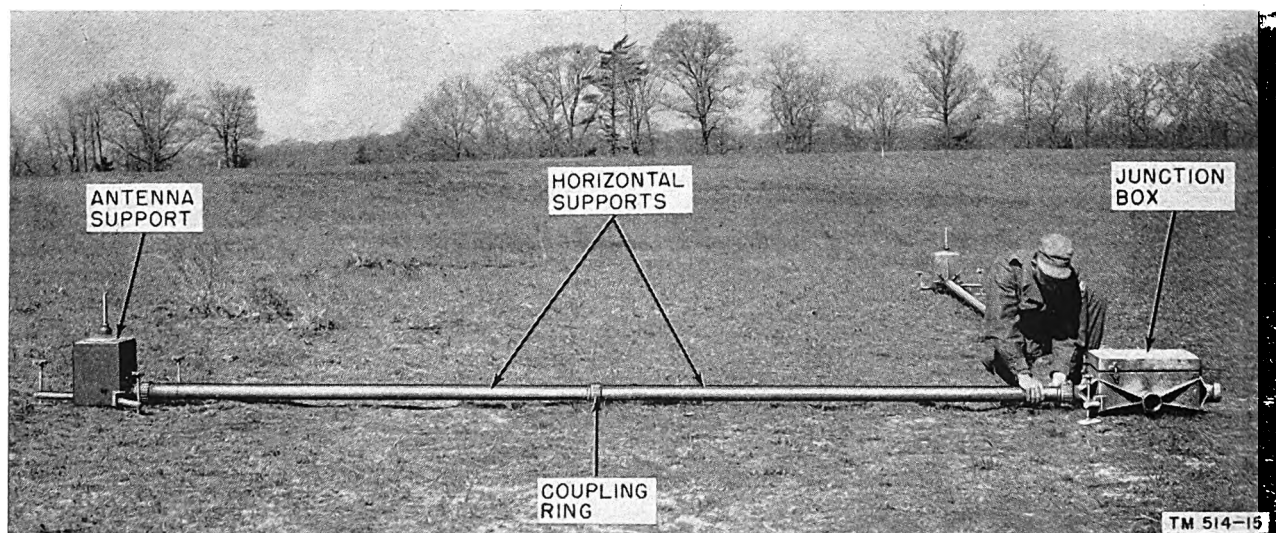

Figure 28. Tightening coupling ring on junction box.
d. **COUPLING RINGS.** Screw all the coupling rings to the coupling sleeves on the antenna supports and the center junction box. Use the large strap wrench from Chest CY-363/CRD-2 for tightening these coupling rings (figs. 28 and 29). If the coupling rings will not screw on easily, the rings may be dirty or the antenna system may not be quite level.
- (1) If only one Support MT-333/CRD-2 is used (par. 19b or c), remove all interconnecting cables from Chest CY-359/CRD-2. If two supports are used (par. 19a), remove all interconnecting cables from Chest CY-360/CRD-2. Canvas bags are provided to protect the cable connectors from dirt or water. These bags should be attached to